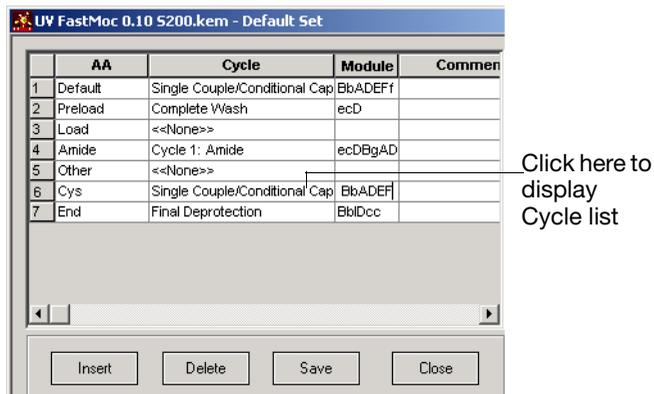

Figure 7-27 Displaying the Cycle List.
- To associate a different cycle with the newly inserted amino acid (Asn), click the cell in the cycle column to the right of the amino acid (Figure 7-27).